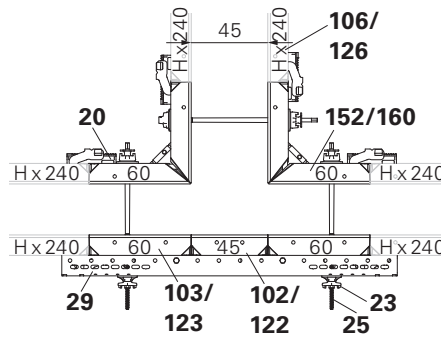

Fig. D3.09
- Wall thickness 45: Fig. D3.09 + D3.09a/c + D3.09b/d